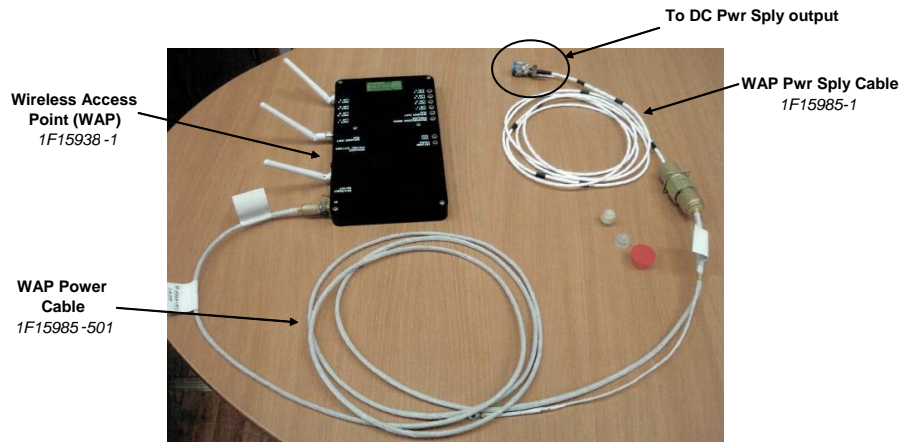

Figure 12-6.- WAP configuration.
5. Per Figure 12-6, PGSC Usage Chart (if available) or UTILITY OUTLET PLUG-IN PLAN, ON-ORBIT CONFIG (REF DATA FS, UTIL PWR):
- b. Connect WAP Pwr Sply Cable to WAP Pwr Cable (see fig 12-6)
- c. Connect other end of WAP Pwr Sply Cable to DC Pwr Sply output (see fig 12-6)
- d. Connect WAP Pwr Cable to Access Point pwr port (see fig 12-6)